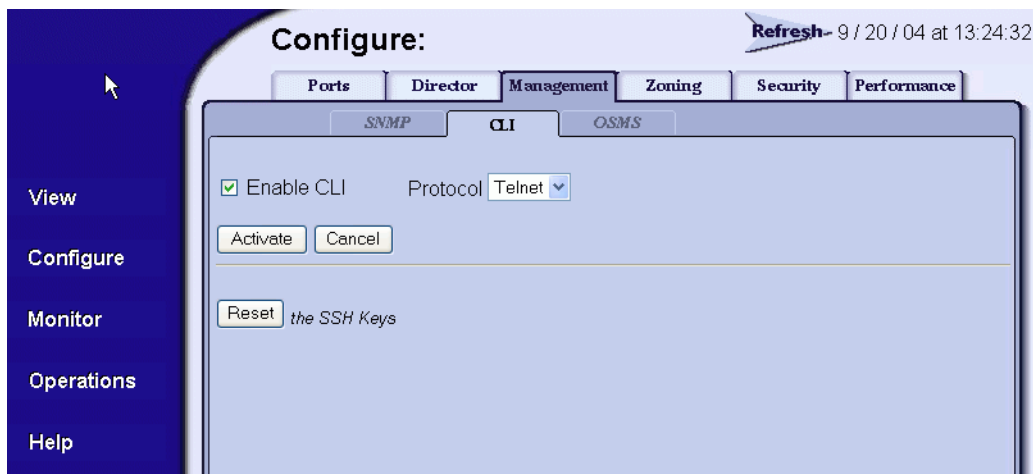

Figure 2-16 Configure Panel (Management Page with CLI Tab)
1. At the *Configure* panel, click the *CLI* tab. The *Management* page displays with the *CLI* tab selected (Figure 2-16).